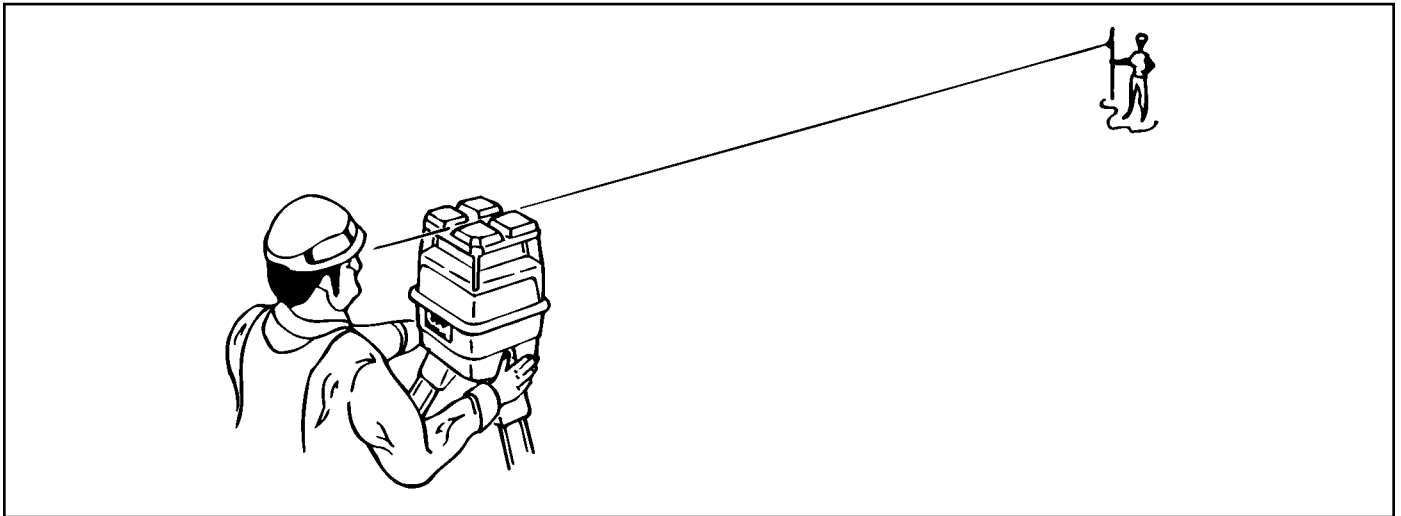

Figure 1-16 Sight Over Laser Beacon
5. Roughly align one of the axis to the grade stakes by sighting over the top of the Laser Beacon (Refer to Figure 1-16).
4. Roughly align one of the axis to the grade stakes by sighting over the top of the Laser Beacon (Refer to Figure 1-16).